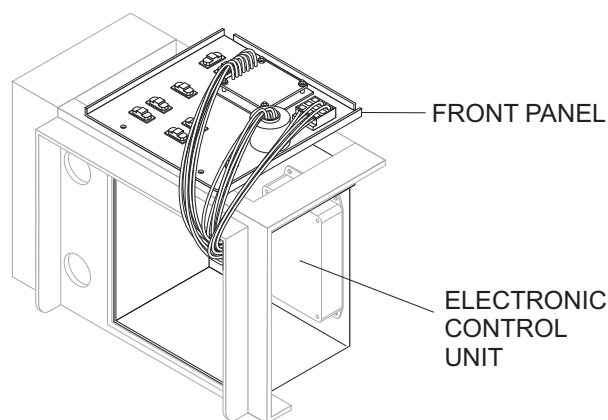

Figure 35. Pulling Out Control Panel
2. Tilt and slowly pull out the control panel and place on top (Figure 35) of control box to gain access inside the box.